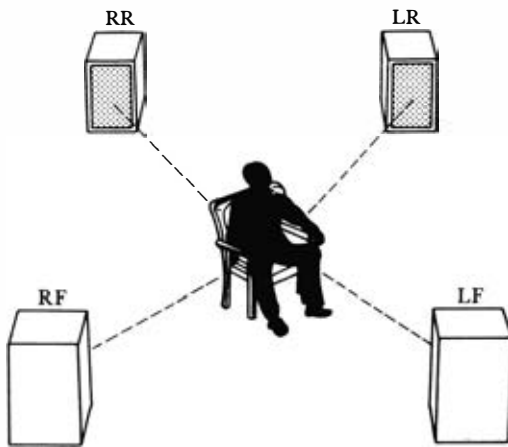
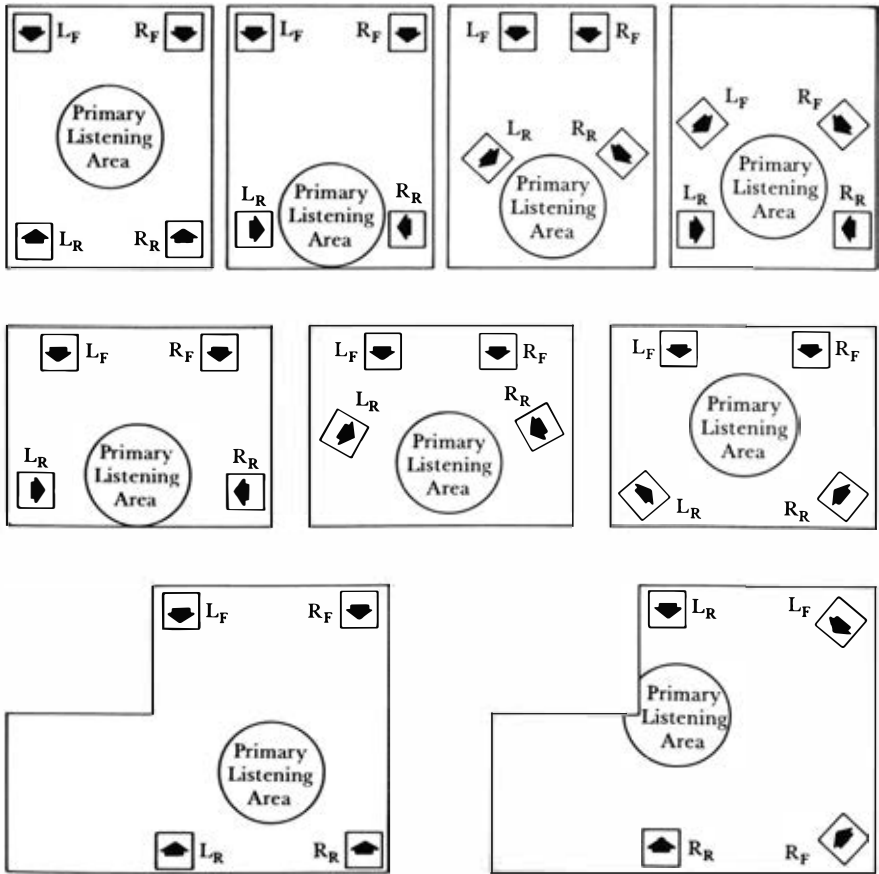

Figure 1-16. Four speakers are utilized in a quadraphonic sound system.
Figure 1-17. Quadrasonic speaker positions and directions for various types of rooms. (Courtesy Marantz)
Quadraphonic sound systems include four enclosures, as pictured in Fig. 1-16. These enclosures are designated as right-front (RF), left-front (LF), right-rear (RR), and left-rear (LR). In view of variations in room acoustics and shapes, the optimum enclosure positions and orientations must usually be determined by experiment. As explained previously for stereophonic installations, each quadraphonic installation will be characterized by a primary listening area and an optimum listening position. A listener who does not occupy this comparatively limited area will experience impaired quadraphonic reproduction. In an extreme situation, the listener might be seated close to the right-front enclosure; in turn, he/she will experience monophonic reproduction for all practical purposes. Examples of enclosure positions and their orientations, with primary listening areas designated, shown in Fig. 1-17.